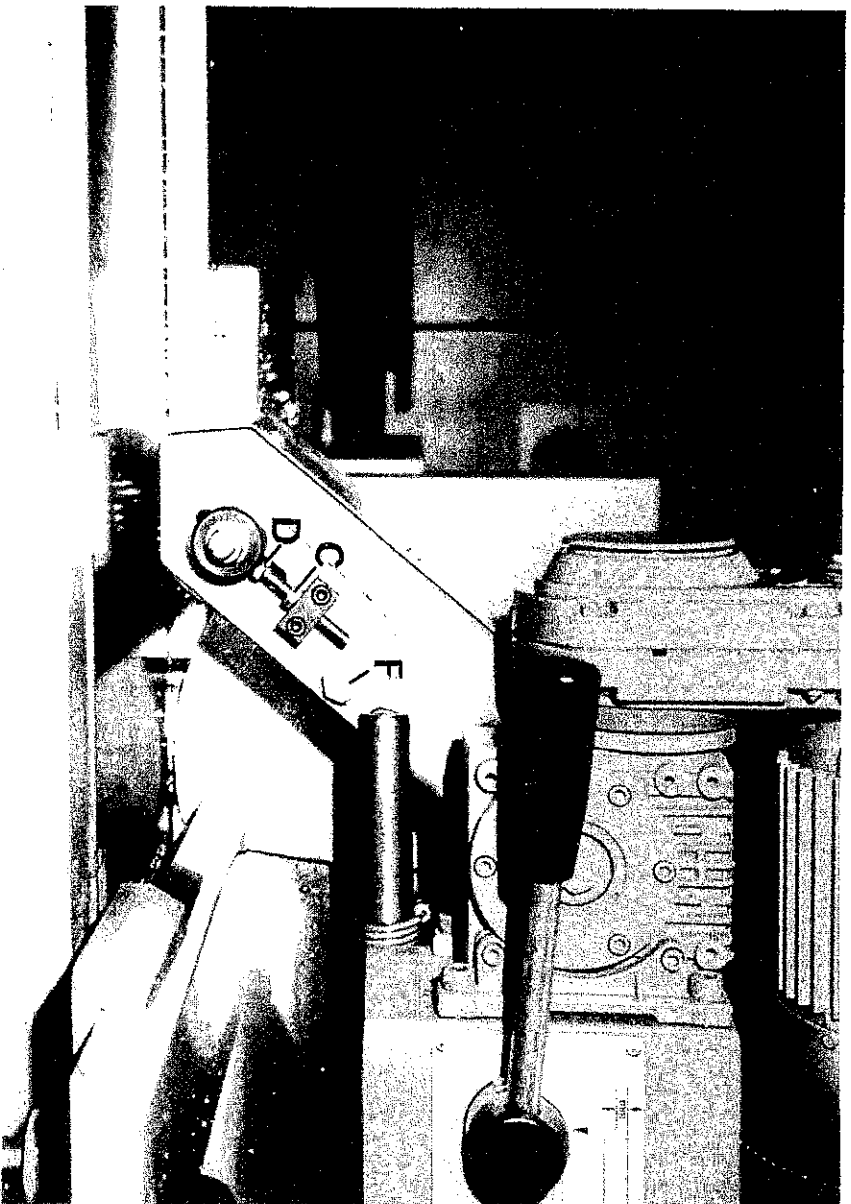
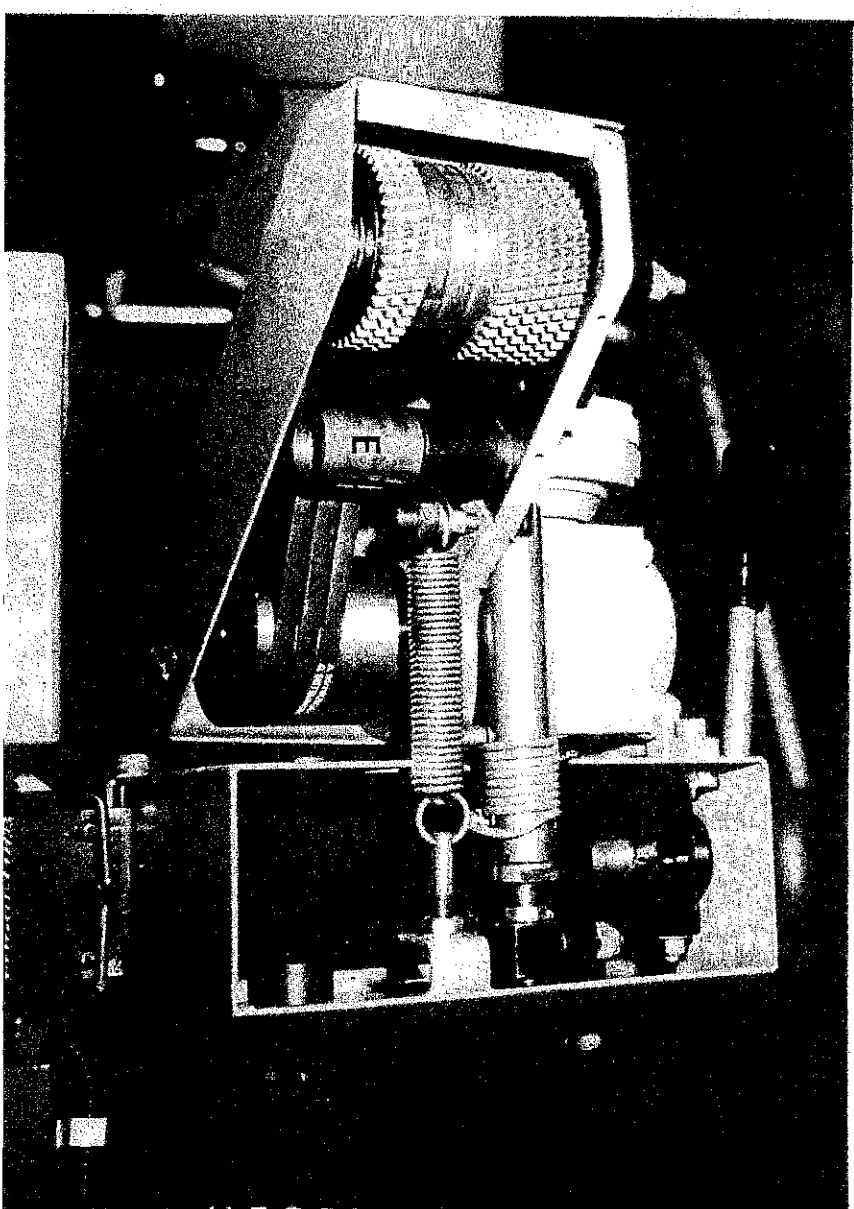

FIG. 23
FIG. 24
- d) Adjust M8 locknut "C" and M8 hexagon head screw "D" FIG.23 to tension belts.
- d) Adjust M8 locknut "C" and M8 hexagon head screw "D" FIG.23 to release tension.
- f) Release eccentric "E" FIG.24, by using allen key in end of eccentric "E" and loosening hexagon head bolt "F" FIG.23.